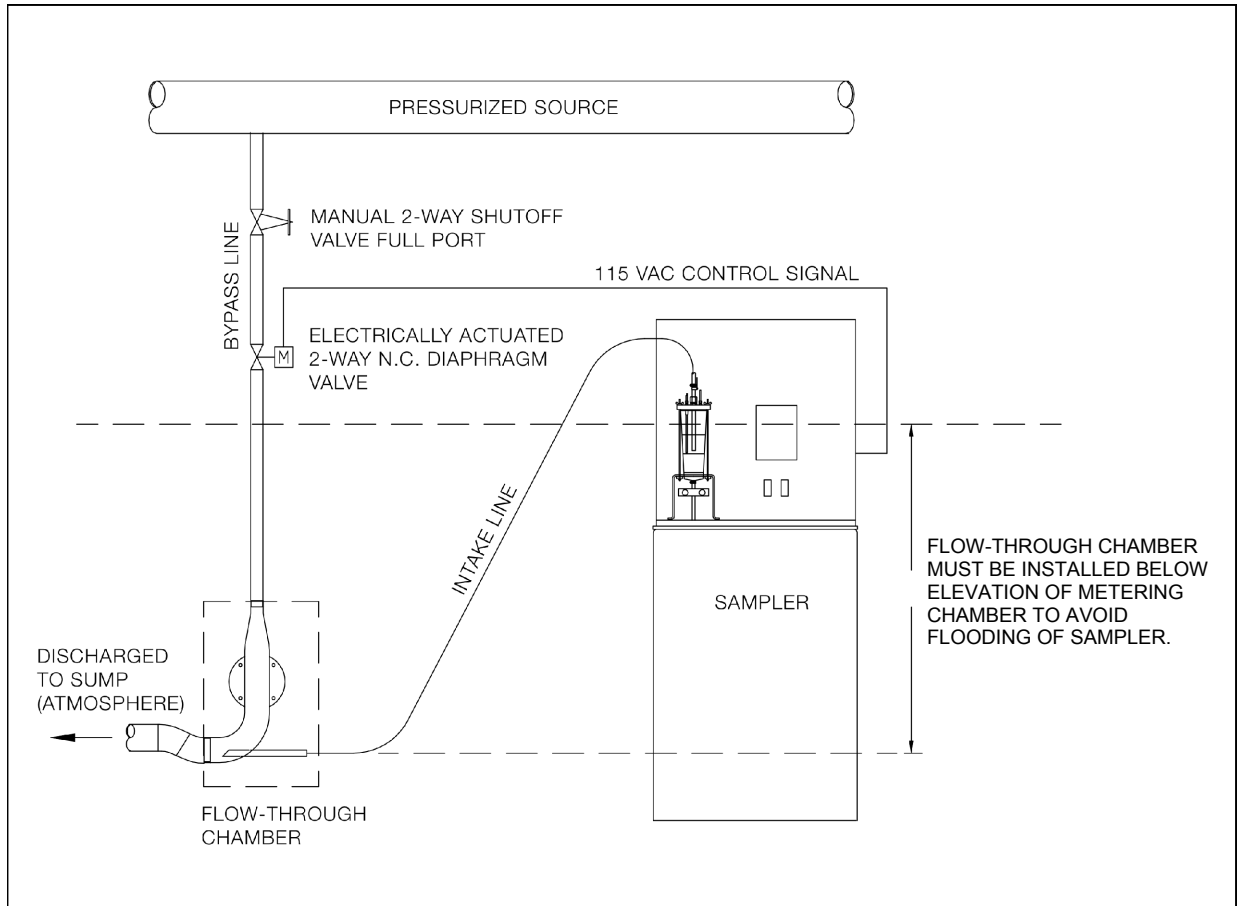

FIGURE 5-9. Flow-through chamber for pressurized source
3. **Flow-Through Chamber.** Divert liquid from the pressurized line to a “wet well” or secondary pool, and attach this component to it, as shown in FIGURE 5-9.